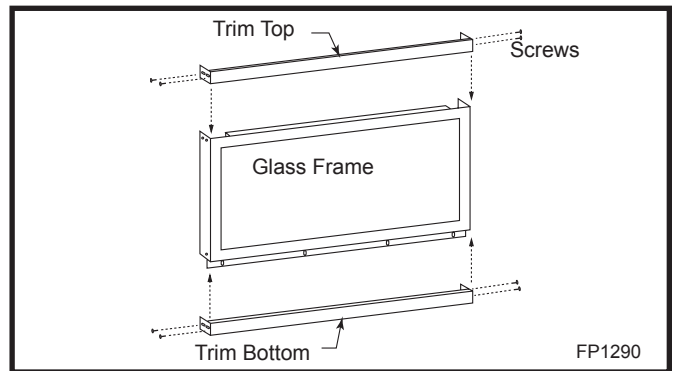

Fig. 26 Install top and bottom brass trim.
2. Install top and bottom brass trim by using the shortest black screw. (Fig. 26 & 27)